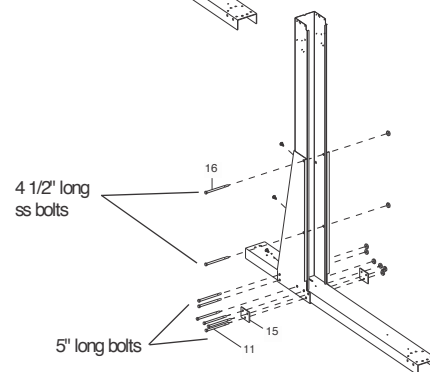

Fig. 14
D) All holes should be lined up at this point. Bolt the components together as shown in the diagram. Use 5/16" x 5" long bolts and 5/16" nuts for the channels, and 5/16" x 5" long steel bolts for connecting the gussets to the uprights. Remember to include the three-hole plate at the fronts of the gussets. If these washers are left off your pool will break! See Fig.14 for visual instructions.